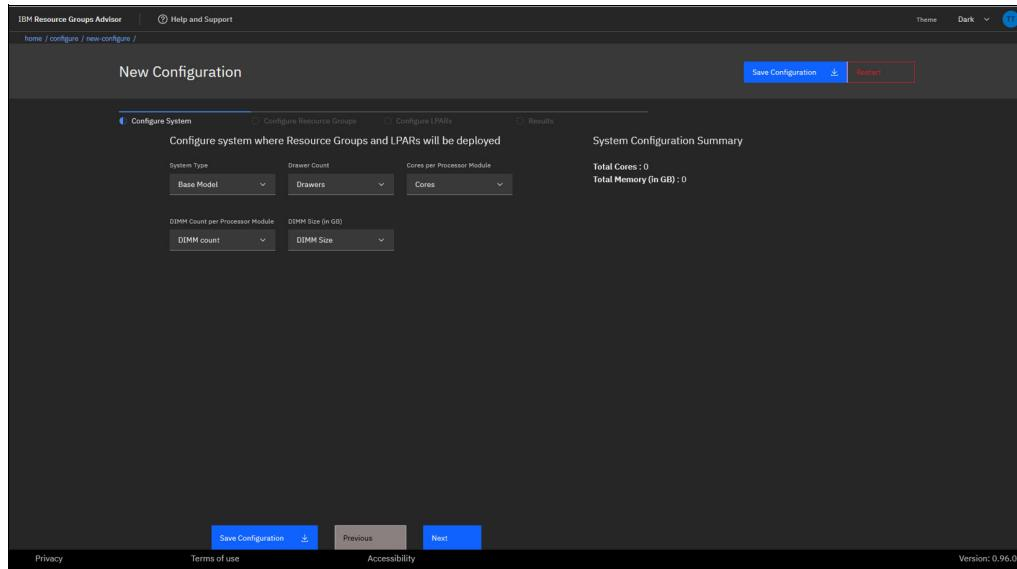

Figure 9-9 New Configuration screen
3. In the New Configuration screen (Figure 9-9 on page 190), provide the system configuration parameters.